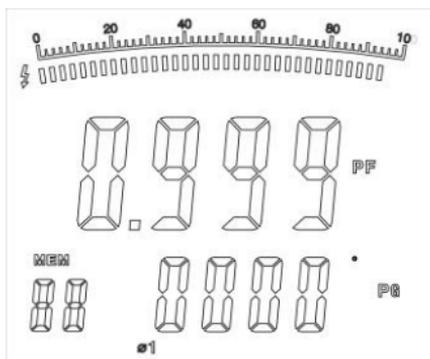

Figure 18
4. When measuring 3 phase 4 wires: (see figure 18, 19 and 20)
- Press **SEL** to choose the first phase , see figure 18.